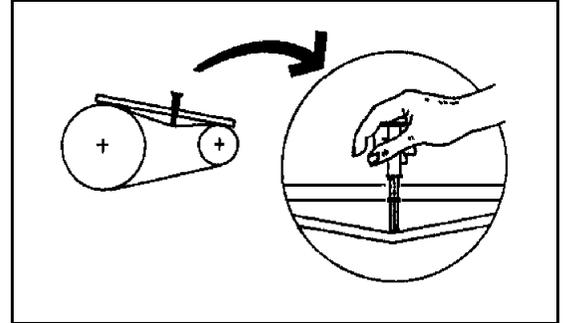

FIGURE 6 (MSSM0712AE)
3. Place a straight edge along the top edge (pulley to pulley) of the belt. Depress the tension testing tool by sliding the cap against the middle of the belt span until the bottom edge of the lower O-ring aligns with the straight edge as shown in FIGURE 6.